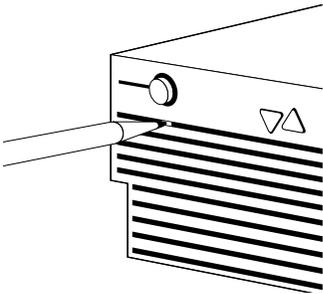

Figure 8-1
1. If you cannot communicate with the system using the console, or over the network, or if the power button on the front of the system doesn't respond, use a pencil or an unwound paper clip to press the recessed reset button located on the front panel, as shown in Figure 8-1.